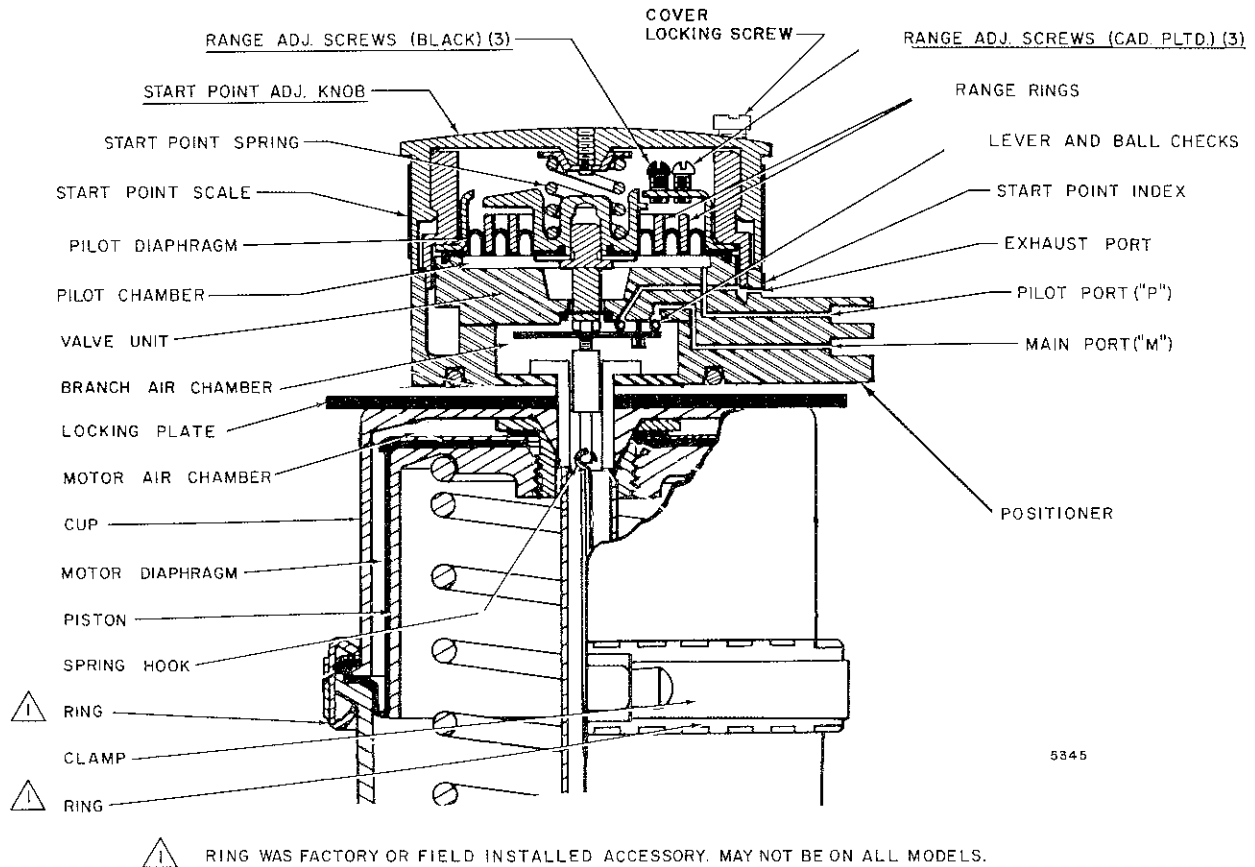

Fig. 4. Partial Cutaway Showing Old Style Positive Positioner Adjustment Locations.
Using the thermostat key, loosen the cover locking screw (Fig. 4). Unscrew and remove the start point adjustment knob and make range adjustments according to the directions inside. Select operating range according to application as follows.
1. Reinstall and tighten the start point adjustment knob (Fig. 4) until it bottoms.